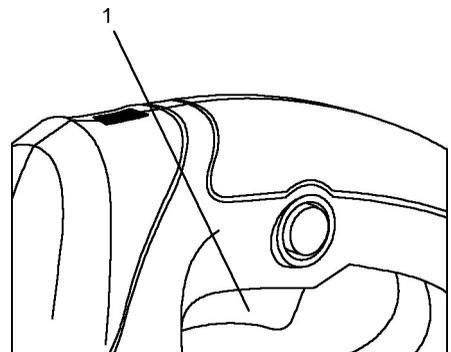

Fig. 2
To turn your jigsaw ON, depress the trigger switch (1) (Fig. 2). To turn the saw OFF, release the trigger switch.